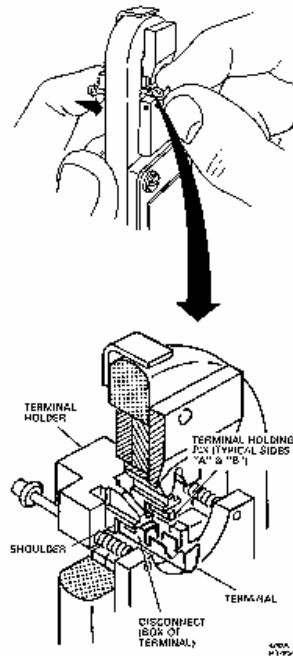

Figure 2. Positioning Terminal for Crimping
1. Hold the hand tool so that the lever is on the left. With your index finger, push and hold the terminal holder in its forward position. (See figure 2.)